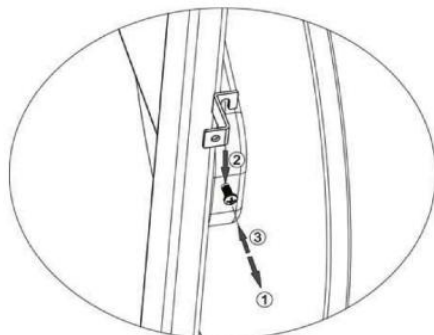

Fig 1
1. Loosen the installed screw on cycle and slide the slotted part of the bracket onto screw, tighten. (Fig. 1)